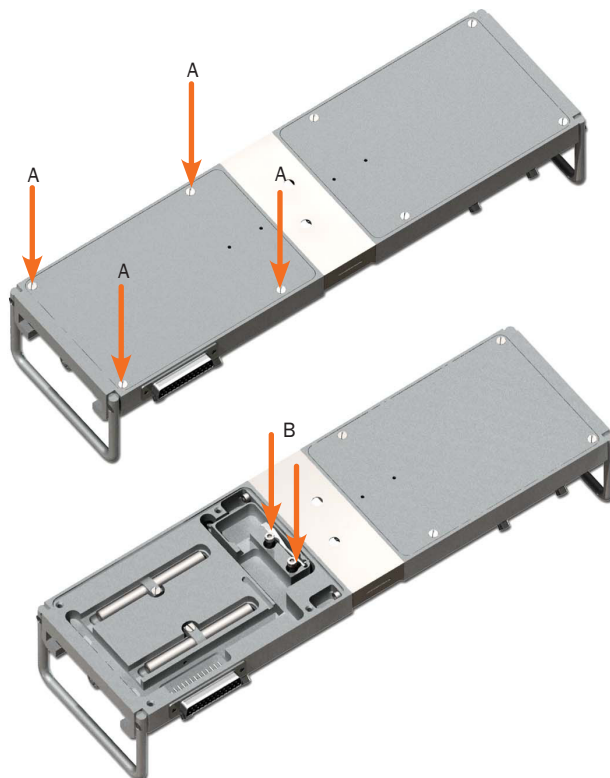

Figure 4.7 Illustration of how to replace the force transducer
3. Turn the myograph unit up side down and remove the bottom plate by loosening the four screws (A) as illustrated in figure 4.7 below.